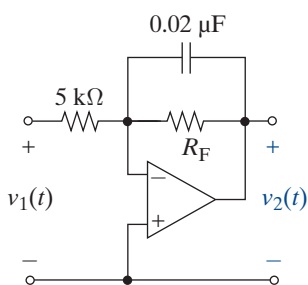

FIGURE P11-21
- 11-21 Find $h(t)$ and $g(t)$ for the circuit in Figure P11-21 if $R_F = 100 \text{ k}\Omega$.
- 11-22 **D** Select an appropriate R_F for the circuit of Figure P11-21 so that the step response of the circuit is $g(t) = (10e^{-1000t} - 10)u(t)$ V.